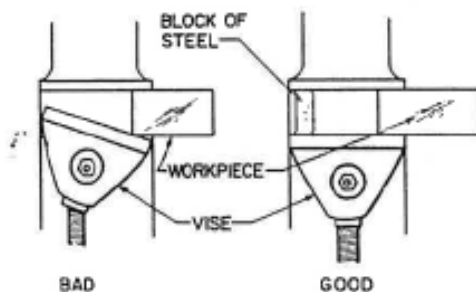
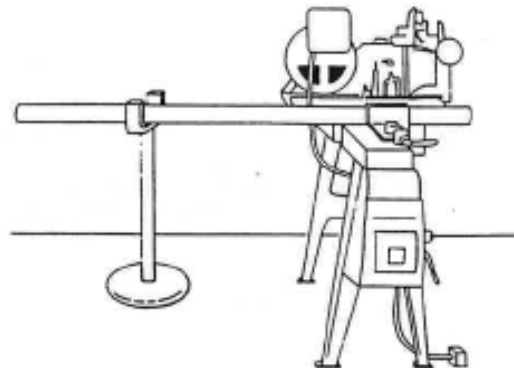

Fig. 14-1
Fig. 14-2
Cutting speeds and feeds vary with (1) the kind of blade material, (2) size of the blade, (3) the type and thickness of material to be cut, and (4) whether a cutting fluid is or is not used. Machines equipped with a swivel vise should be checked so the vise is set at the desired angle. The stock should be properly positioned in the vise. If the piece to be cut is too short to be held properly in the vise, an additional piece of stock should be placed on the opposite side of the vise. Fig. 14-1 Stock which is excessively long should be supported with a stock support. Fig. 14-2 lower the saw blade to rest lightly on the stock so that the stock can be adjusted for the cut. If several pieces need to be cut at the same length, a stop gauge or cutoff gauge should be used. Adjust the blade guides to the size of the stock.